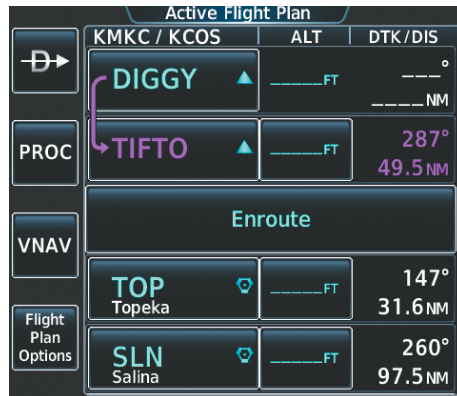

Figure 5-152 TOP Inserted into the Flight Plan
e) Touch the **Enter** Button. TOP is inserted into the flight plan as in Figure 5-152.